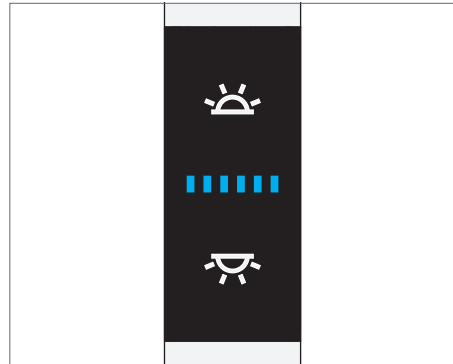

Fig. 20: Multifunction pushbutton operating element.
- Press the upper switch, see Fig. 20
- Press the lower switch, see Fig. 20.
- Press the upper switch and keep it depressed, see Fig. 20.
- Press the lower switch and keep it depressed, see Fig. 20.